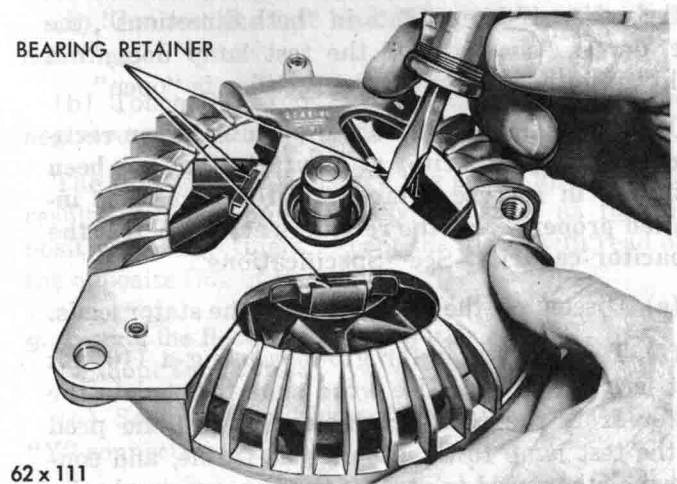

Fig. 43—Disengaging Bearing Retainer from the End Shield
(5) Pry the drive end bearing spring retainer from the end shield with a screwdriver (Fig. 43).
(6) Support the end shield and tap the rotor shaft with a plastic hammer to separate the rotor and bearing from the end shield.